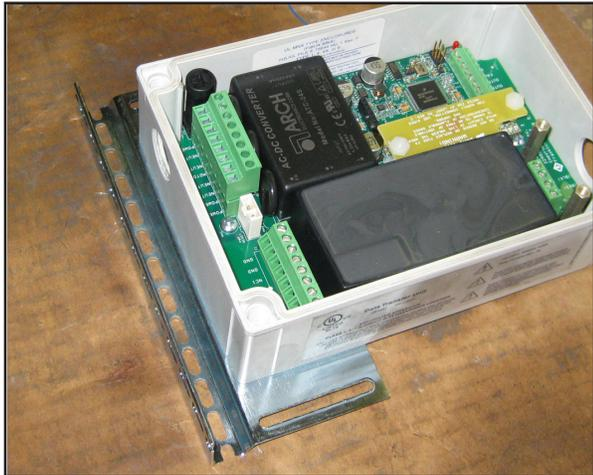

Figure 6: Mounting Bracket on DTU
17. Attach mounting bracket to DTU with two screws, nuts and washers from hardware provided with DTU as described in the General Information Section. Ensure that bracket is installed on correct side as shown in Figure 6.